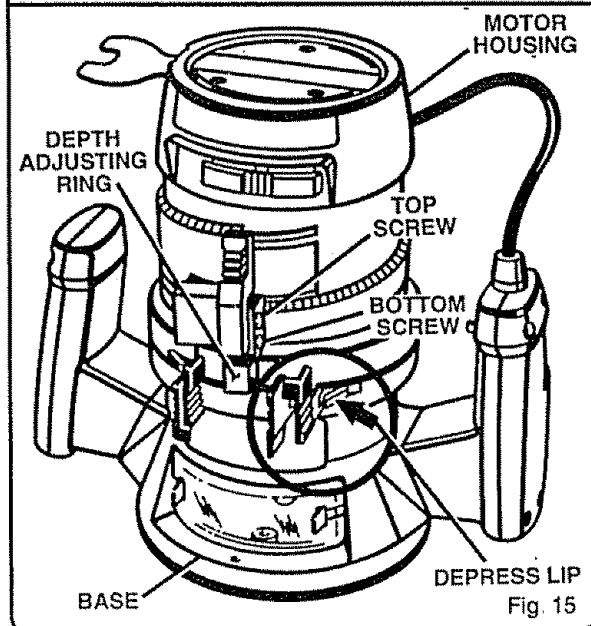

Fig. 15
2. Tighten or loosen top screw in depth adjusting ring. See Figure 15. Make adjustments with top screw only.
3. Remove depth stop rings. To remove: Depress lip on depth stop ring and slide end of depth stop ring over lip. See Figure 15.